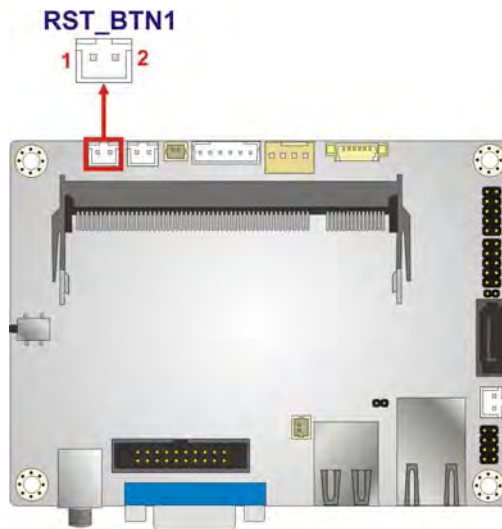

Figure 4-15: Reset Button Connector Location
- CN Location:See **Figure 4-15**